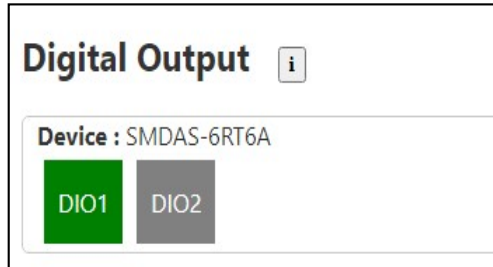

Figure 36: Status of Digital Pins for Device SMDAS-6RT6A
**Digital Output:** The Digital output section represents the status of digital pins along with their respective device name. Each pin is clearly labelled to indicate whether it is currently activated (ON) or deactivated (OFF). Active pins are highlighted in green, while inactive pins are shown in grey. For example, in Fig 36, for Device SMDAS-6RT6A, DIO1 is displayed as ON in green, whereas DIO2 is shown as OFF in grey.